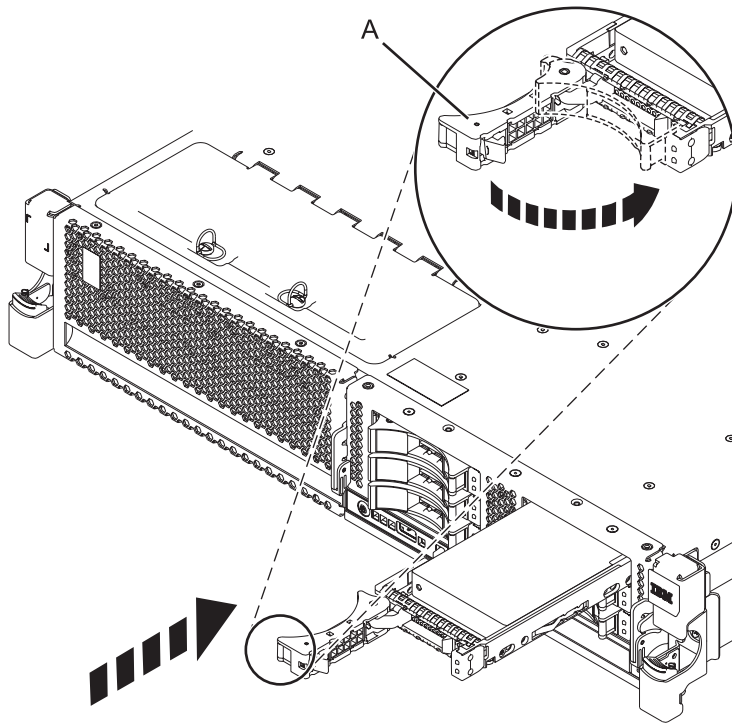

Figure 13. Installing the disk drive in the system
7. When the identify LED turns on solid, slide the drive all the way into the system or an expansion unit, and push the drive handle (A) in until it locks, as shown in Figure 13.